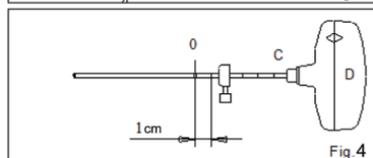
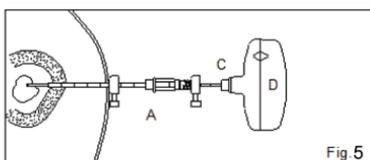

Fig 4
Fig 5
- FIG. 4** Adjust the depth gauge on the Biopsy Needle (C) to the appropriate centimeter marker and tighten to provide a visual guide.
**Note:** The selected centimeter marker will represent the Biopsy Needle (C) protrusion beyond Cutting Cannula (A).
**FIG. 5** Insert the assembled Biopsy Needle and Handle (C+D) through the Cannula (A). Carefully rotate the Biopsy Needle (C+D) clockwise until desired biopsy depth is achieved (or until the depth gauge of the Biopsy Needle (C) reaches the Cannula (A) luer end). Then rotate Biopsy Needle and Handle (C+D) counterclockwise and remove. Remove the Biopsy Handle (D) from the Biopsy Needle (C); insert the Ejector Pin (E) through the Biopsy Needle (C) from the luer end and eject the sample.
**Note 1:** Repeat process from Fig.4 if desired and anatomically safe.
**Note 2:** A syringe can be connected to the luer end of the Biopsy Needle (C) and light aspiration may be applied during removal of the Biopsy Needle (C) if desired.
**Note 3:** In the case of sclerotic lesions, taking several incremental, smaller, samples are recommended to avoid crushing tissue within Biopsy Needle (C).